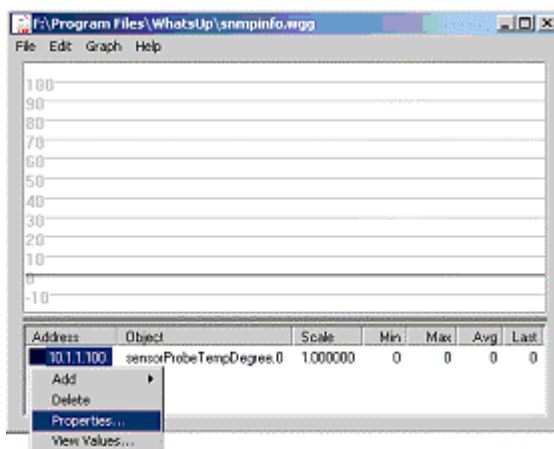
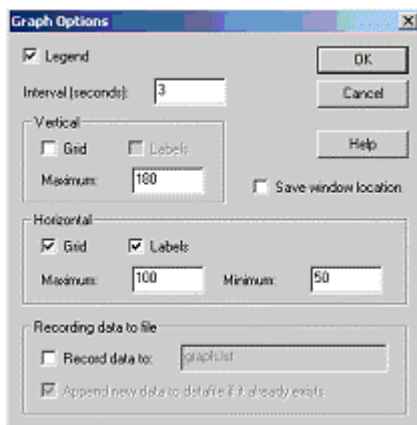

Figure 6 SNMP Graph Utility
Figure 8 Graph options dialog box
1.2 Select Monitor to open SNMP Graph (see Figure 6).
2.1 Right-click on the IP address column of the desired SNMP variable as show in Figure 6.
3.1 From the Graph menu items of SNMP Graph utility (Figure 6), select Properties to open Graph Option dialog box shown in Figure 8.